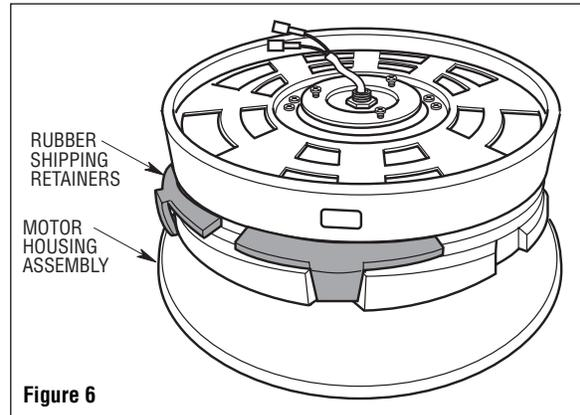

Figure 6
8. Remove and discard the four rubber shipping retainers securing the motor hub in the motor housing assembly (Figure 6).